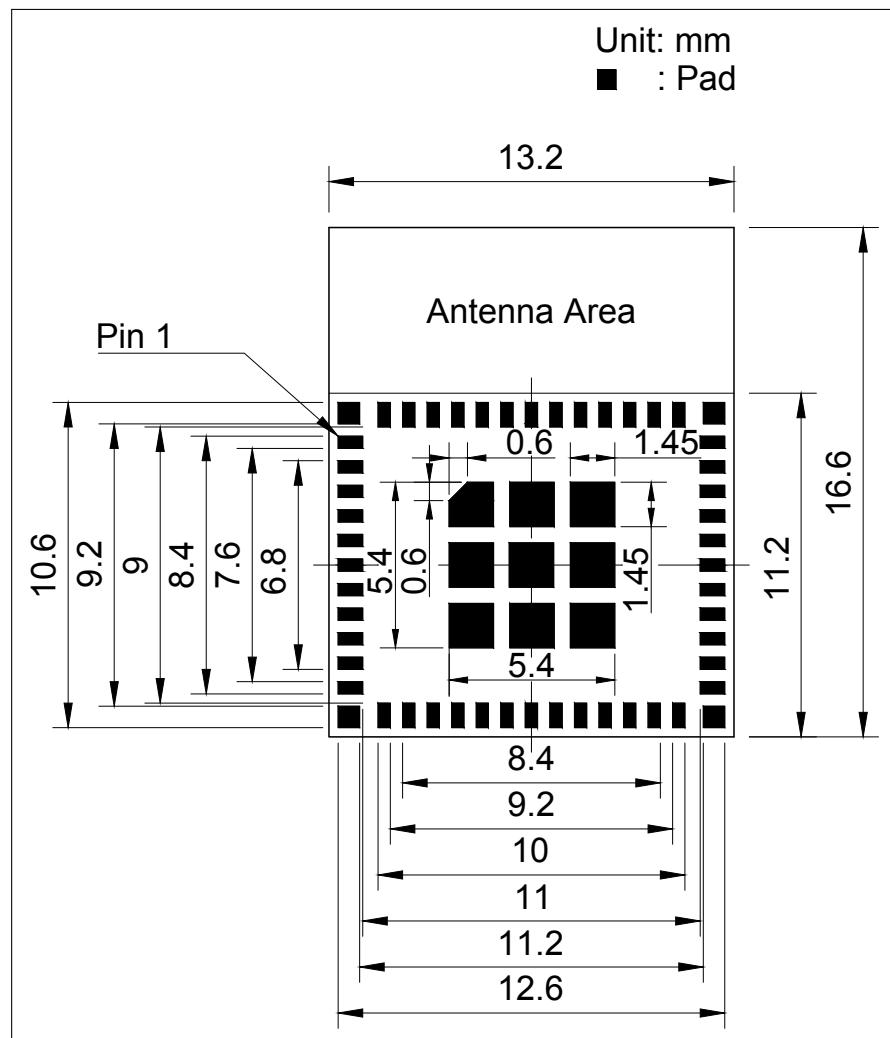
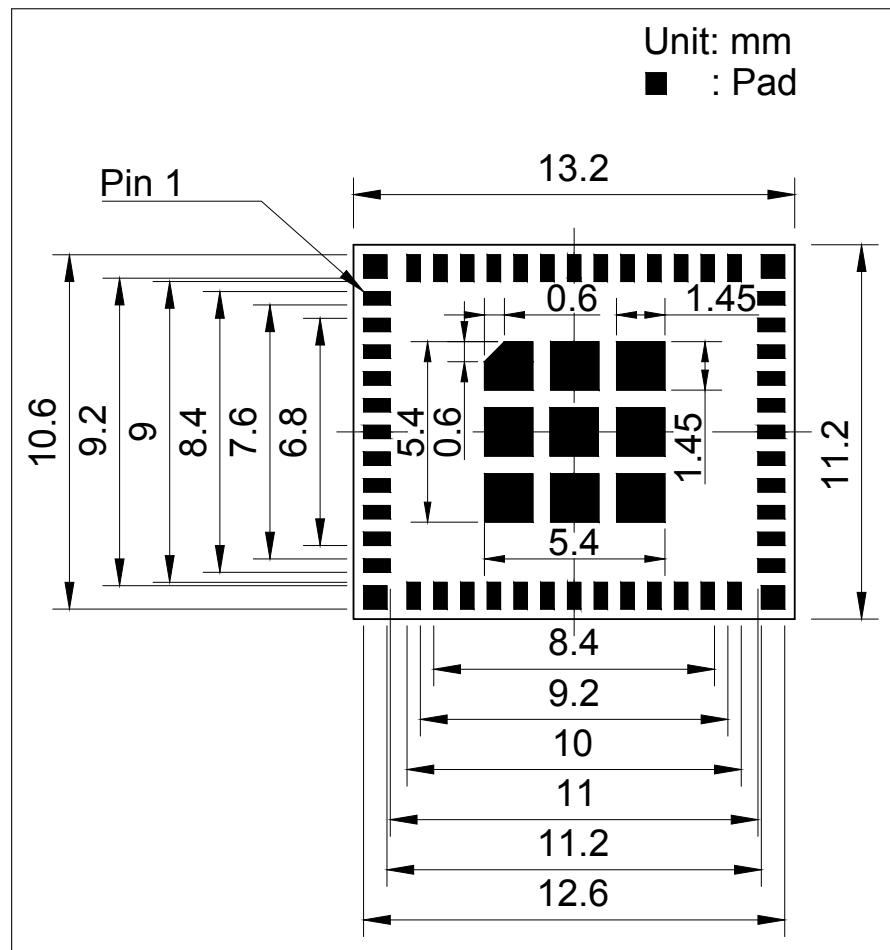

Figure 14: ESP32-PICO-MINI-02 Recommended PCB Land Pattern
Figure 15: ESP32-PICO-MINI-02U Recommended PCB Land Pattern
- Figures for recommended PCB land patterns with all the dimensions needed for PCB design. See Figure 14 ESP32-PICO-MINI-02 Recommended PCB Land Pattern and Figure 15 ESP32-PICO-MINI-02U Recommended PCB Land Pattern.
- Source files of recommended PCB land patterns to measure dimensions not covered in Figure 14 and Figure 15. You can view the source files for ESP32-PICO-MINI-02 and ESP32-PICO-MINI-02U with Autodesk Viewer.